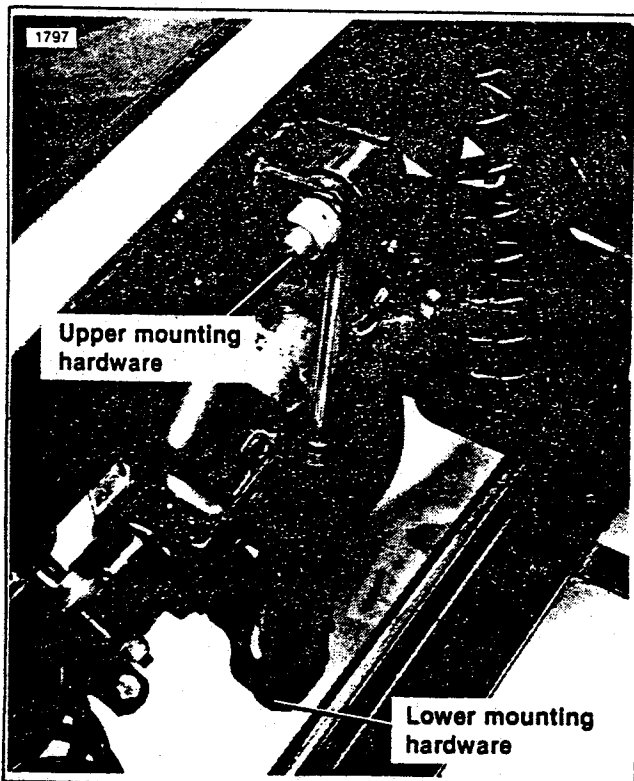

Figure 2-24. Rear Shock Mounting
4. See Figure 2-24. Remove the shock upper and lower mounting hardware. Remove the shock absorber.